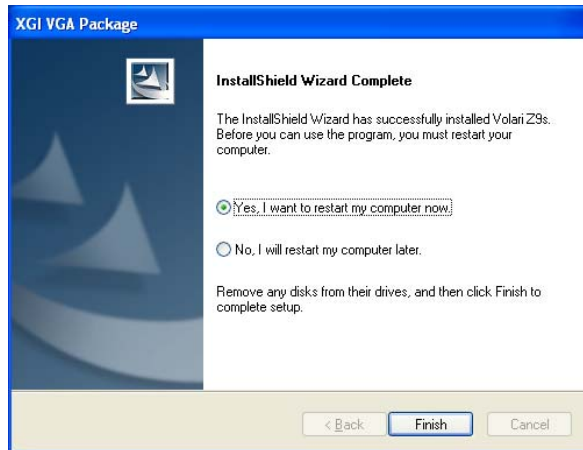

Figure 8-18: VGA Driver Installation Complete Screen
Step 14: When the driver installation is complete, the window in Figure 8-18 appears.